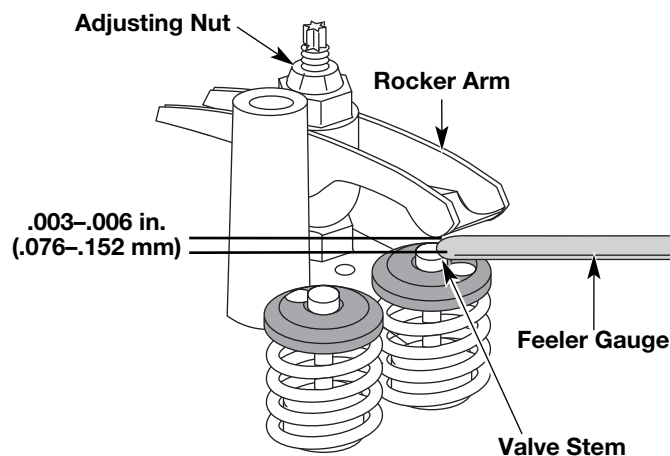

Fig. 38
- a. Turn the adjusting nut using a 5/16 inch (8 mm) wrench or nut driver (Fig. 38).